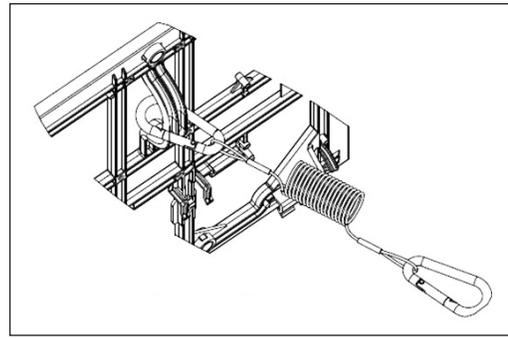

Figure 54: Module Safety Lanyard
4. Secure the factory-installed safety lanyard on the module to another area of the display to prevent the module from falling if dropped. Refer to **Figure 54**.
3. Secure the factory-installed safety lanyard on the module to another area of the display to prevent the module from falling if dropped. Refer to **Figure 54**.